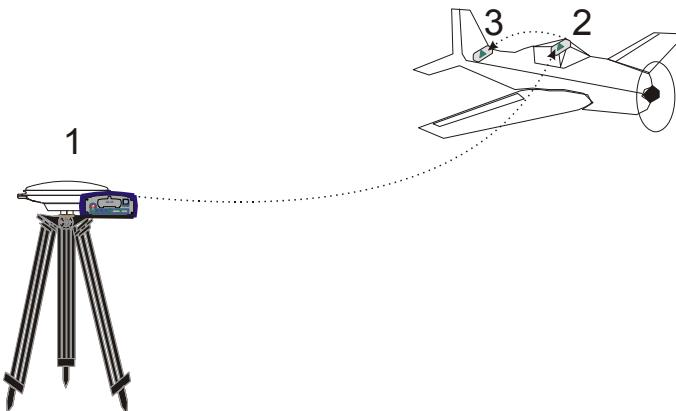

Figure 6: Moving Base Station ‘Daisy Chain’ Effect
- Consider the case where there is a fixed base and an airplane flying with a moving base station near its front and a rover station at its tail end. See *Figure 6 on Page 155*.